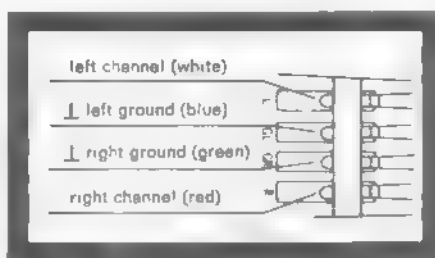

Fig. 19
4. The connections on the cartridge holder are marked and the wire leads are color-coded (Fig. 19). Connect the leads with the appropriate terminal pins on the cartridge.